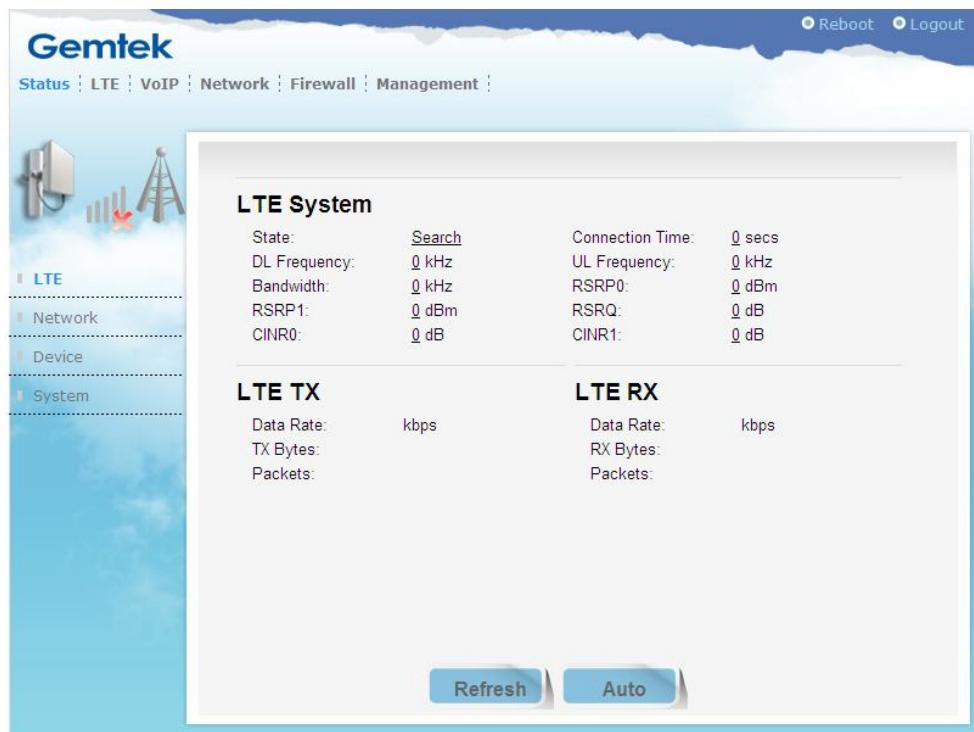

Figure 4: User Interface
**Step 3:** Simply configure the device settings after login (Figure 4).